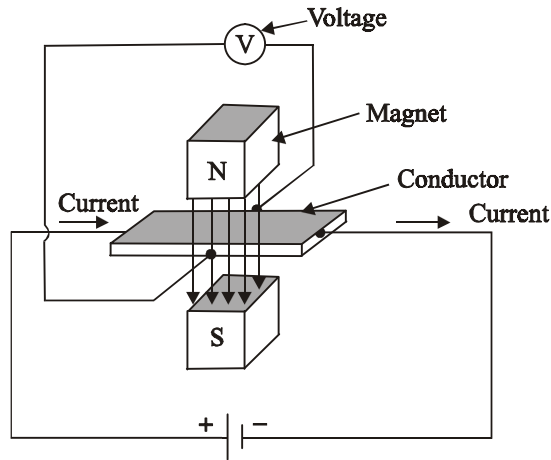

Fig. 2.12 Hall Effect
When a conductor carrying a current (I) is placed perpendicular to a magnetic field (B), a potential difference is produced inside the conductor in a direction perpendicular to both current and magnetic field. (Fig. 2.12)